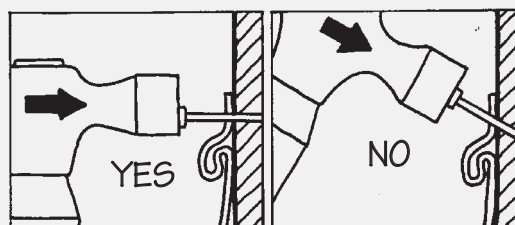

Figure 18.
- Drive fasteners straight and level to prevent distortion and buckling of the panel (Fig. 18).